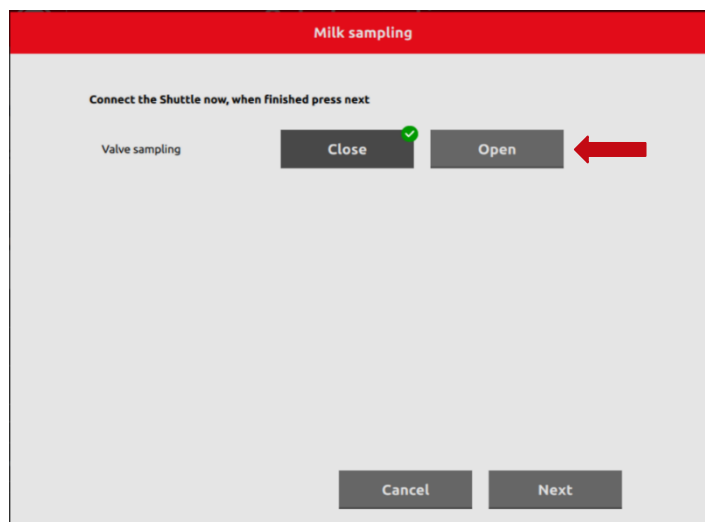

Figure 26. Milk sampling menu
3. On the Menu, Click **Open**, see the figure 26